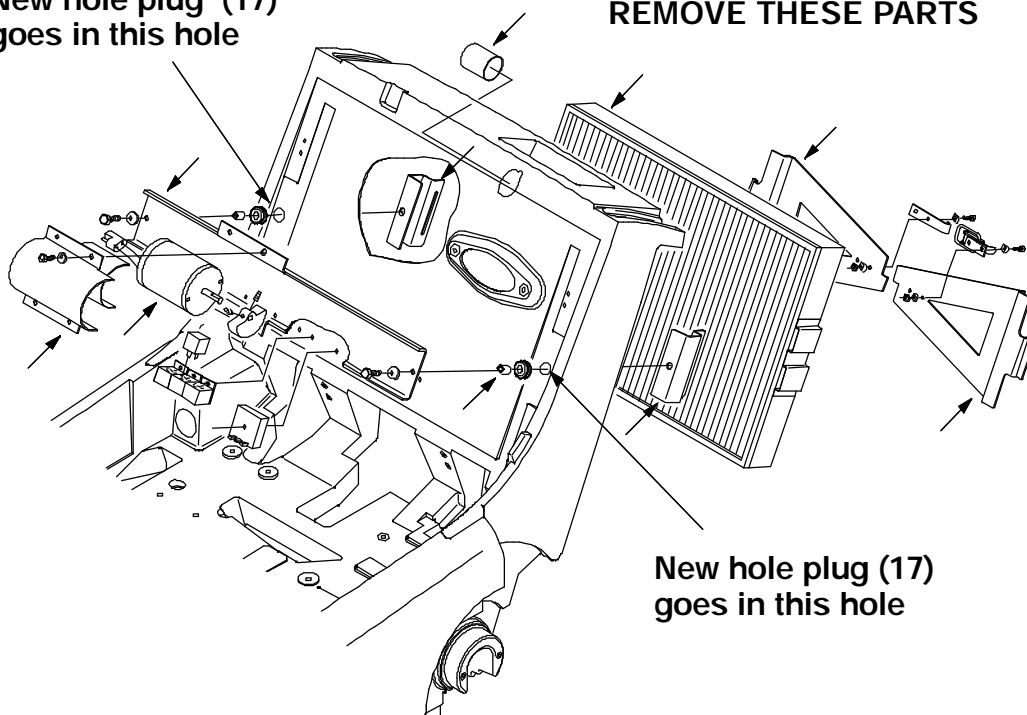

FIG. 5 Panel Filter Assembly (Parts to Remove)
20. Remove all of the panel filter related parts (shaker motor, shaker bar, shaker brackets, panel filter, retainer brackets, hose cuff tube, and misc. parts). (Refer to FIG. 5)
21. Use the two hole plugs (17) to fill the two holes left open when the shaker bar attachment hardware was removed. (Refer to FIG. 5)
22. Turn the hose cuff a 1/4 turn and pull it out of the machine frame. Remove the sleeve from the end of the flex cuff. (Refer to FIG. 5 and 6)